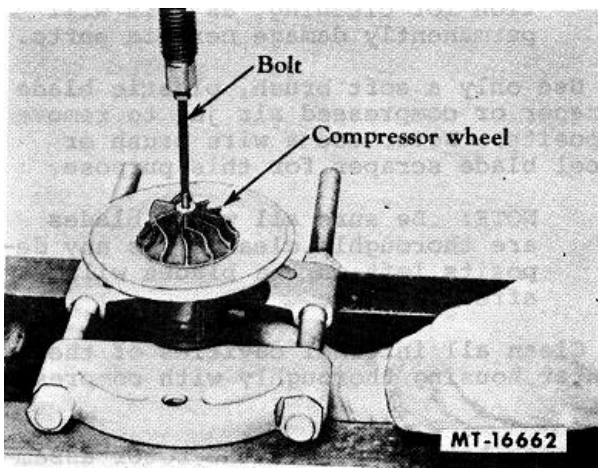

Fig. 16. Separating Compressor Wheel From Turbine Shaft.
9. Support the center housing assembly on the arbor press as shown in Fig. 16. Grind the radius on the end of a 1/4 inch bolt to fit the end of the shaft. Press the shaft from the compressor wheel.